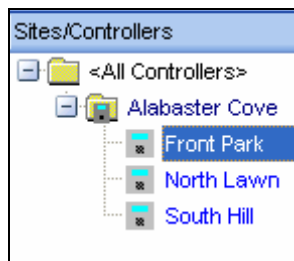

Figure 7.0.2
2. Select the Site / Controller that you want to perform Direct Access on from the “**Sites / Controllers**” window. Make sure that it is highlighted (Figure 7.0.2).